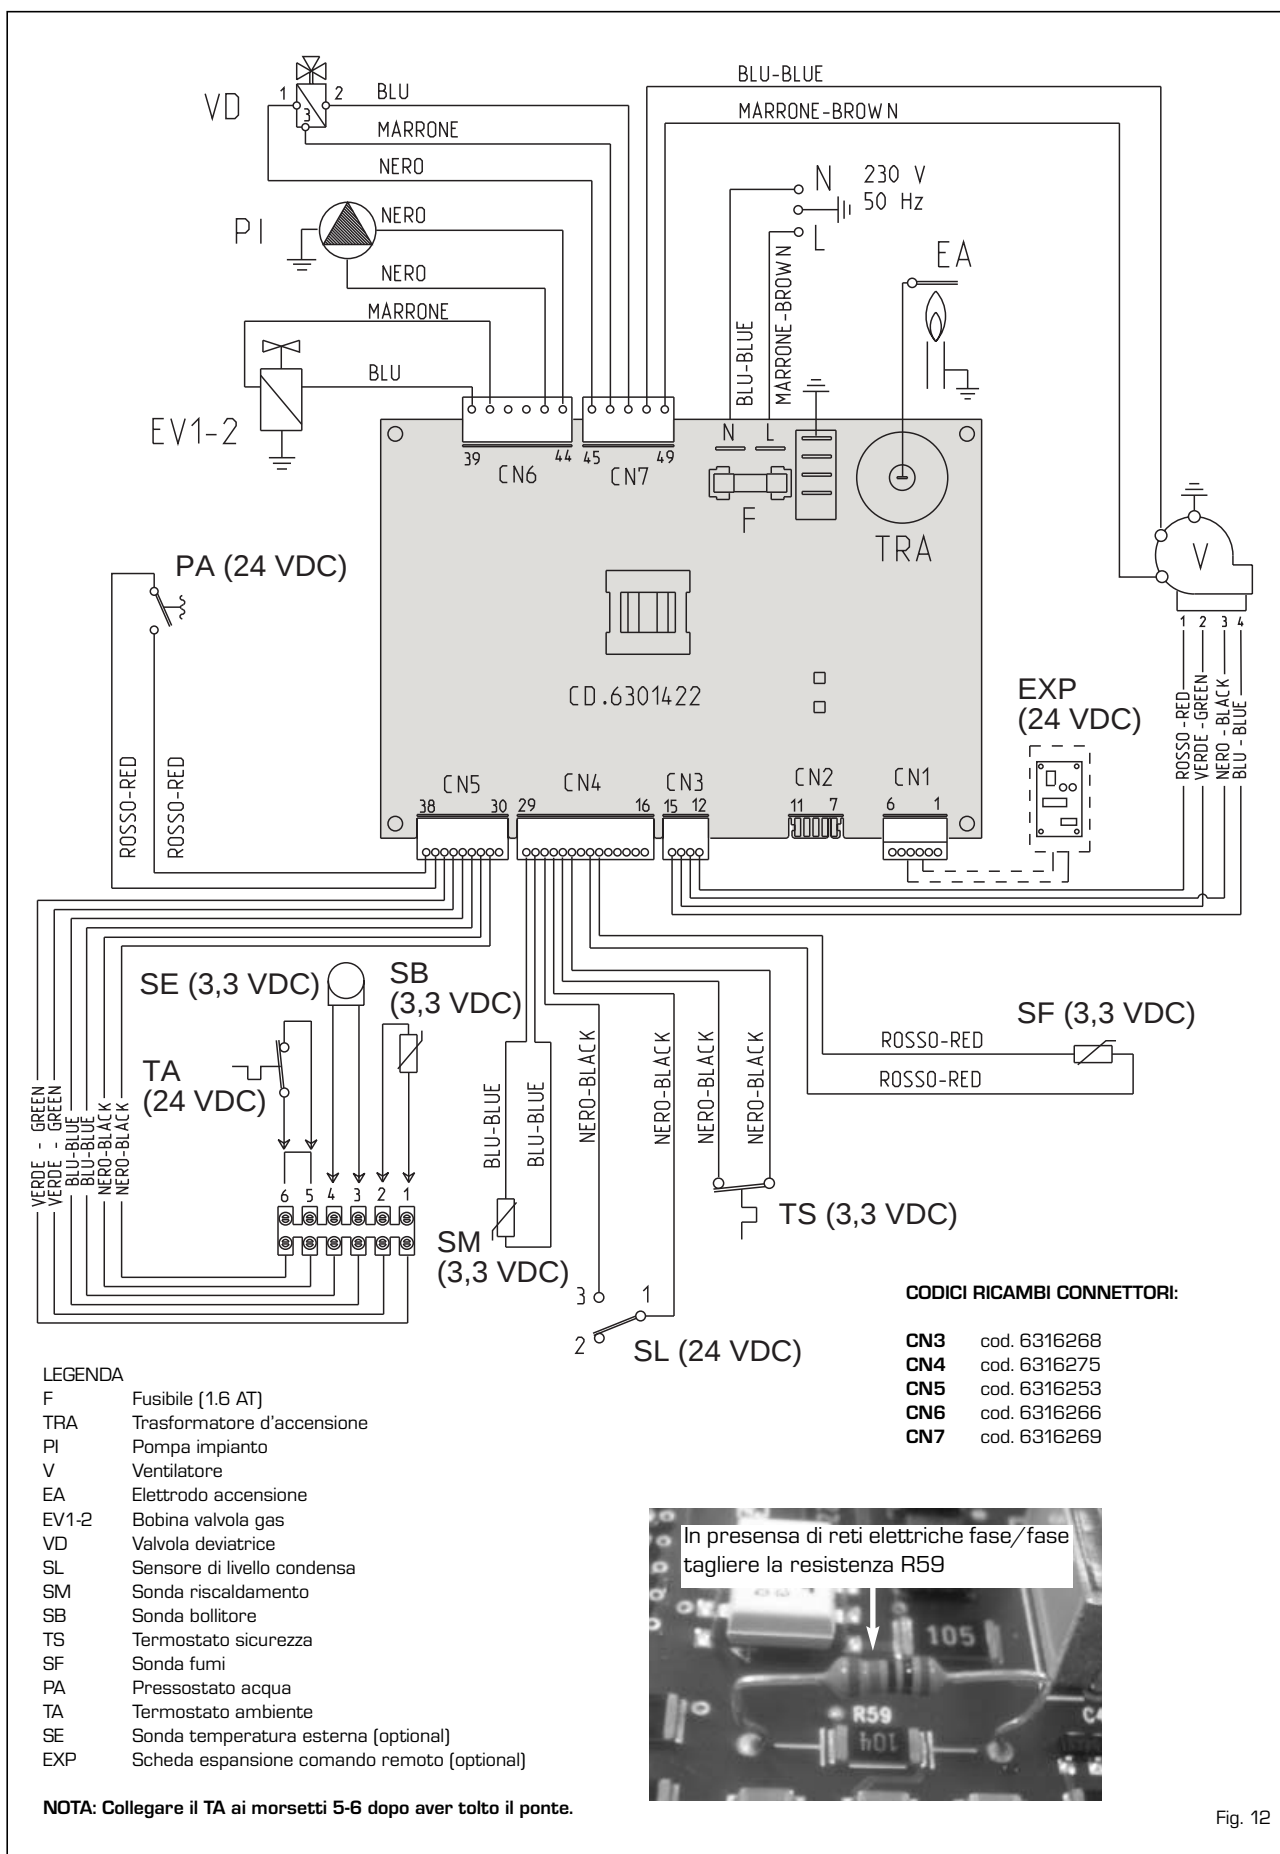

Fig. 12
2.13 SCHEMA ELETTRICO MOD. "25-30-35" (fig. 12/a)